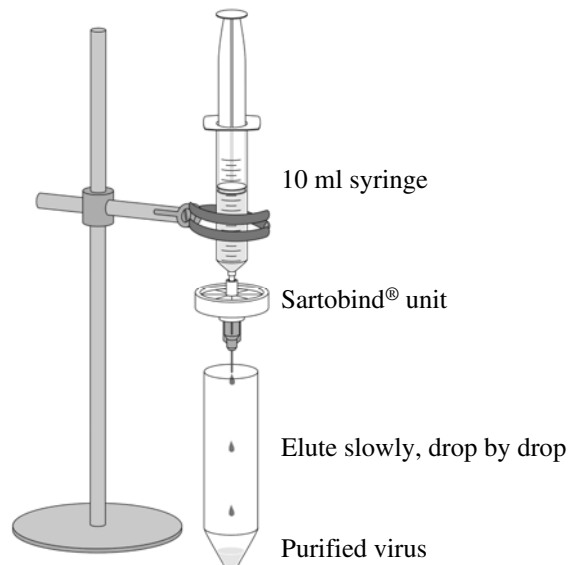

Figure 4 Elution set up.
3. Hold the syringe vertically. Very slowly (drop-by-drop) pass 1 ml Elution Buffer through the Sartobind unit and collect in a sterile 15-ml tube (see Figure 4).